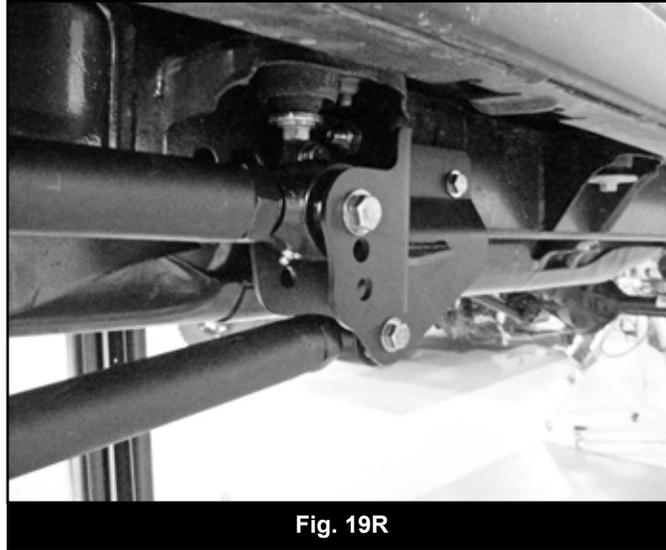

Fig. 19R
39. Install the UCAs to the axle with the OE hardware. Attach the adjustable end to the frame bracket with a 9/16" x 4" bolt, washers, and prevailing torque nuts (BP 762). Leave hardware loose at this time (Figure 19R).